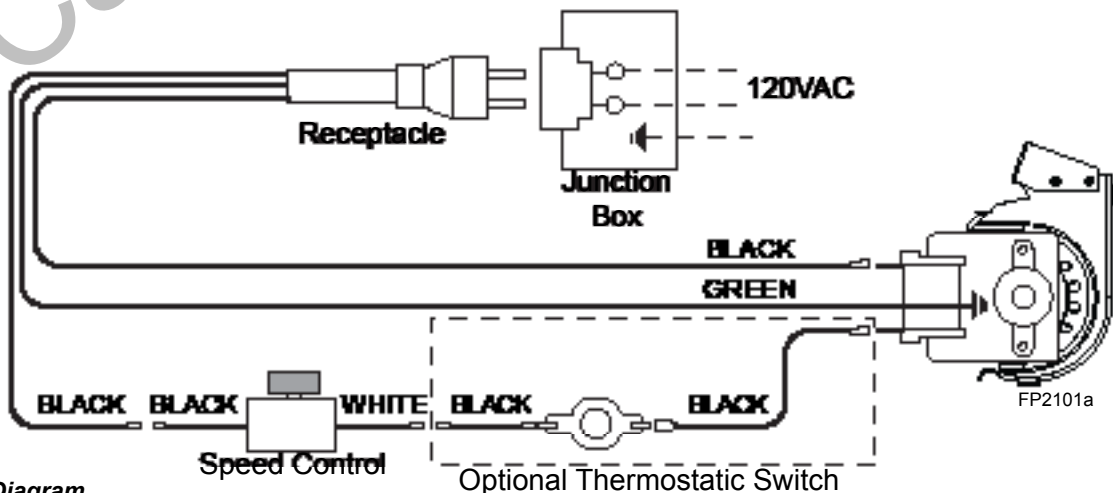

Figure 45 - Blower Wiring Diagram
3. The junction box cover has a factory installed “romex” style strain relief connector. After connecting the wires, route the wire leads through this connector. Refer to the wiring diagram in *Figure 45*.